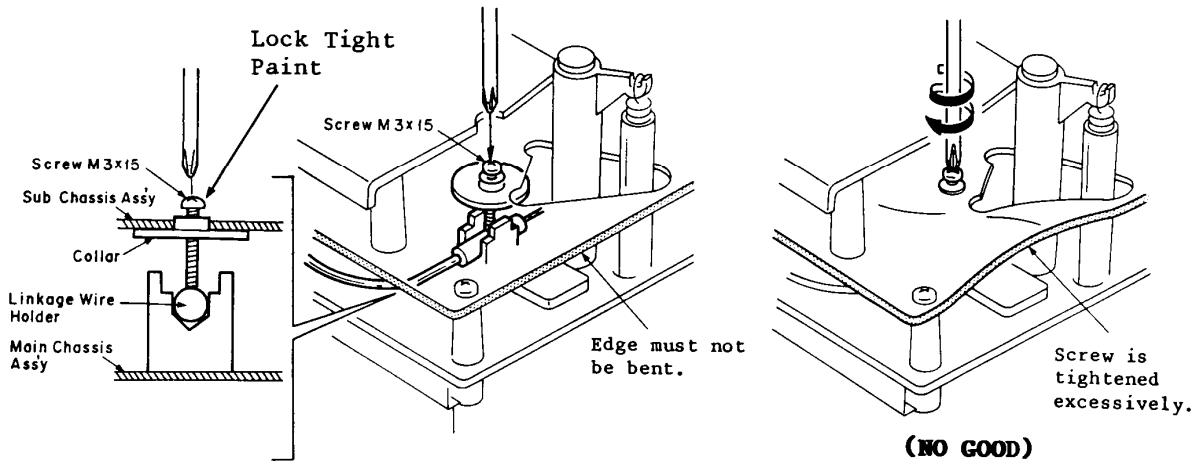

Fig. 4
- (5) Install a screw M3x15 and fix the Linkage Wire Holder by tightening it. Excessive tightening causes the Sub Chassis Ass'y to be bent. So, look at the edge of the Sub Chassis Ass'y and make sure that it is not bent. See Fig. 4.
- (6) After fastening the screw M3x15, apply a quantity of lock tight paint to the screw.